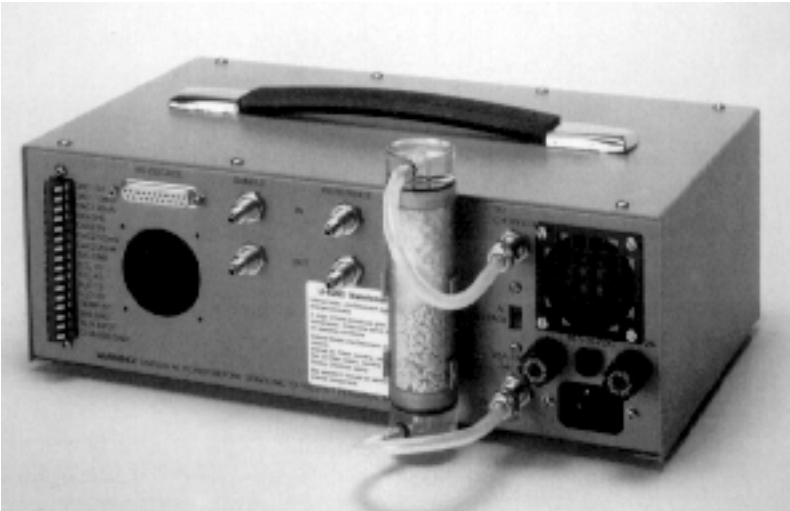

Figure 2-1. Hose connections for operation in differential mode.
- Attach the top hose (nearest the perchlorate) to the **TO CHOPPER** fitting (Figure 2-1).